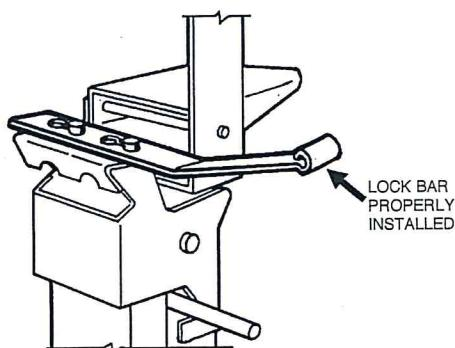
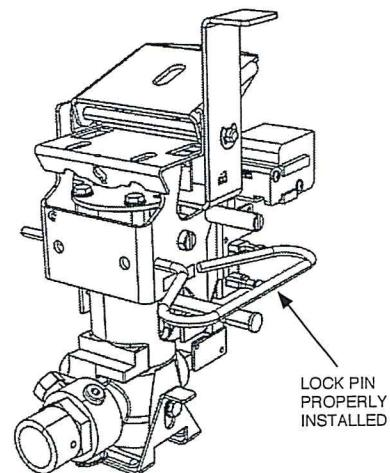

FIGURE 8-1
FIGURE 8-2
2. Insert the lock bar (Part No. 14985) or lock pin (Part No. 438031) on the cocked regulated release mechanism. See Figure 8-1 or Figure 8-2.